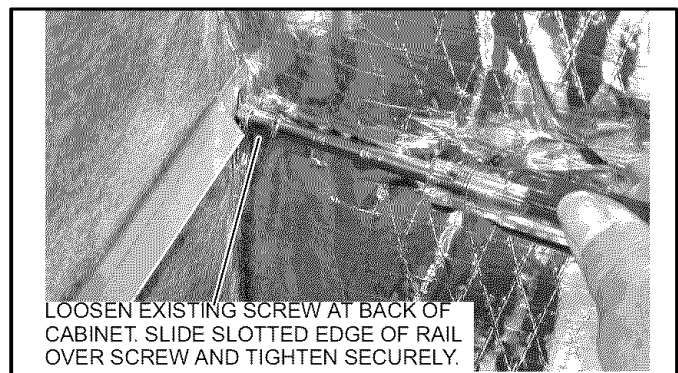

Figure 4. Secure Back of Coil Support Rail
- Loosen the existing screw on each side of the back of the cabinet. Slide the rear coil support rail slot over the screw and tighten the screw securely (see figure 4).